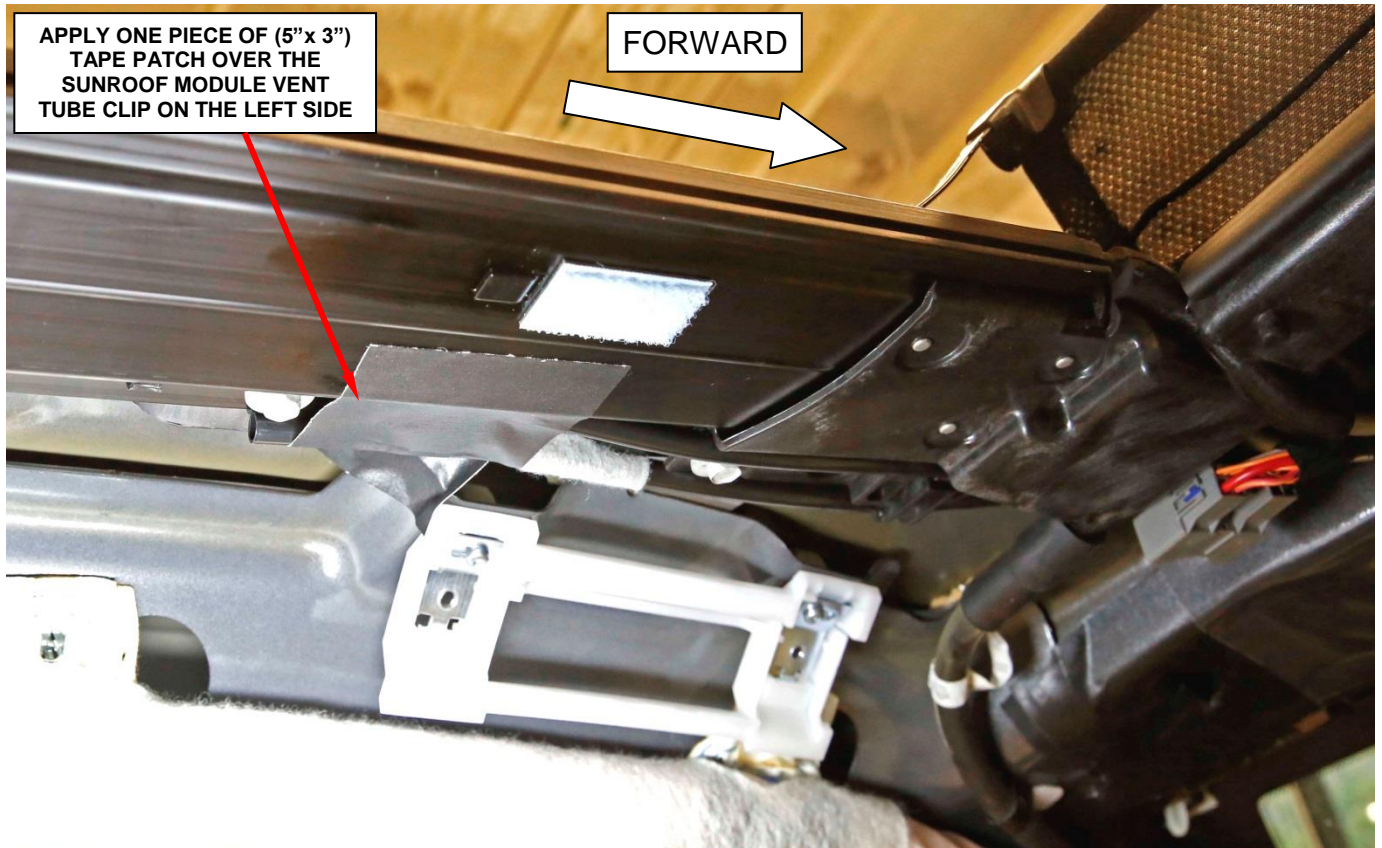

Figure 25 – Apply Tape Patch Over Sunroof Module Vent Tube Clip (Dual Pane Sunroof Left Side Only)
52. **For vehicles equipped with a Dual Pane Sunroof and did not have recall P36 performed,** apply one piece of (5"x 3") tape patch over the sunroof module vent tube clip on the left side of the vehicle (Figure 25 and 26).